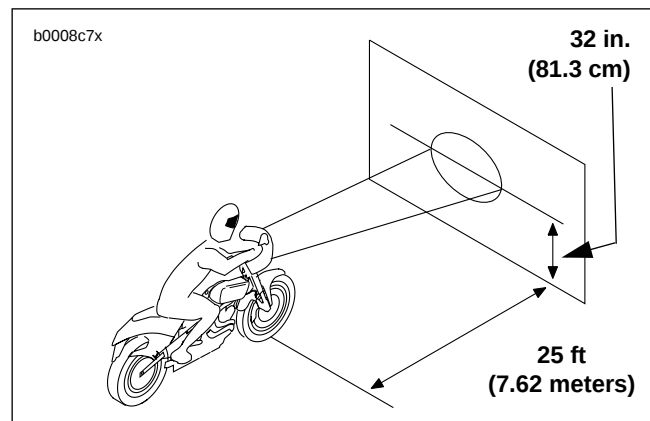

Figure 1-53. Checking Headlamp Alignment
3. See Figure 1-53. Position motorcycle 25 ft (7.62 meters) away from a screen or wall. Measure the distance from directly below the front axle to the base of the screen/wall.